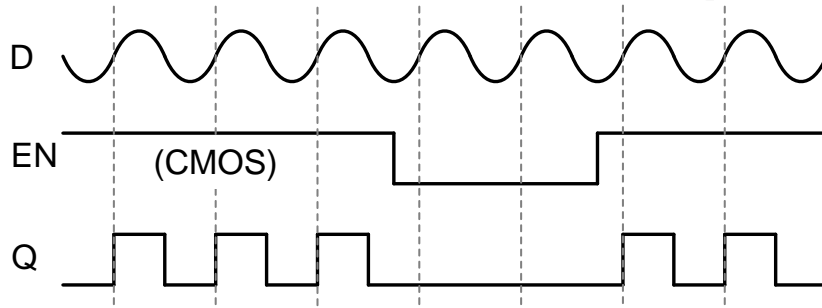

Figure 2 - Timing Diagram
Figure 2 illustrates the timing sequences for the AZP92 in the $\div 1$ mode which is determined by leaving the DIV-SEL open (NC). It also illustrates the enable in the active High mode being controlled by a CMOS signal. This mode is determined by leaving the EN-SEL open (NC).